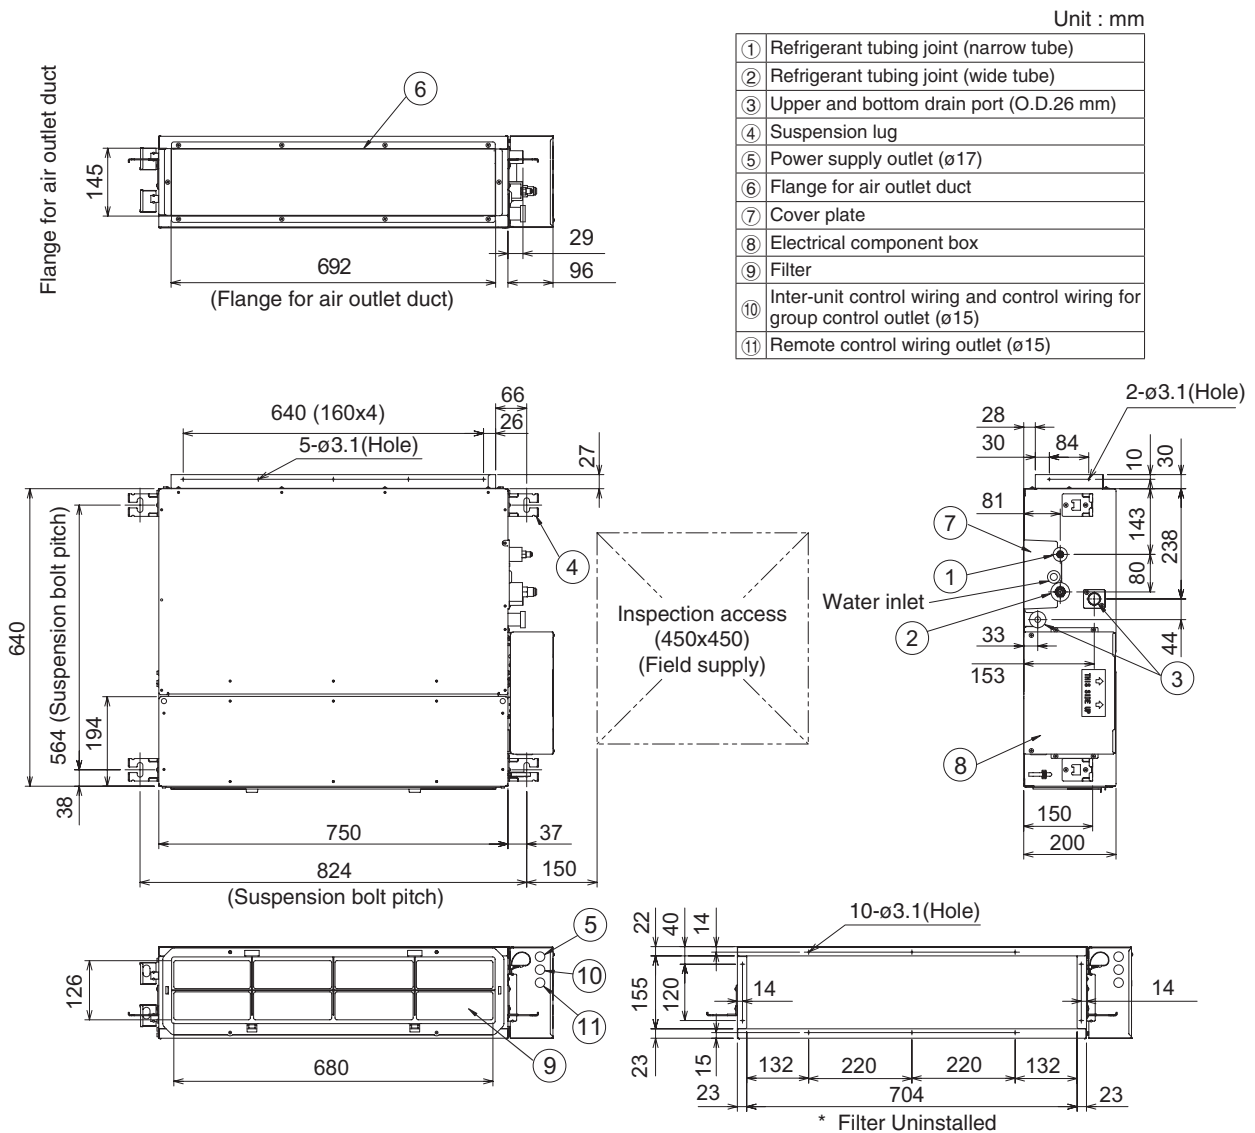

Fig. 3-2
- The diagram shows the detailed dimensions of the indoor unit. (Fig. 3-2)